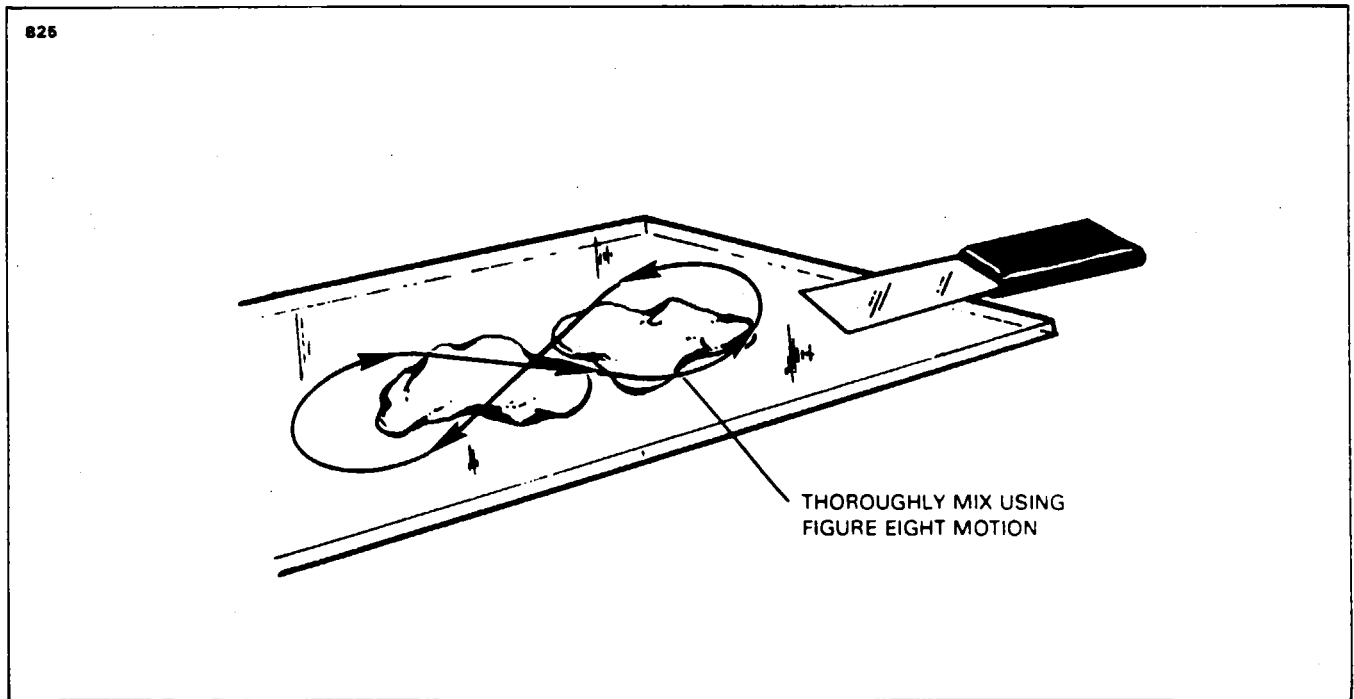

Figure 51-5. Mixing of Epoxy Patching Compound
- F. The patching compound is mixed in equal portions on a hard flat surface using a figure eight motion. The damaged area is cleaned with perchlorethylene or VM & P Naphtha prior to applying the compound. (Refer to Figure 51-5.)